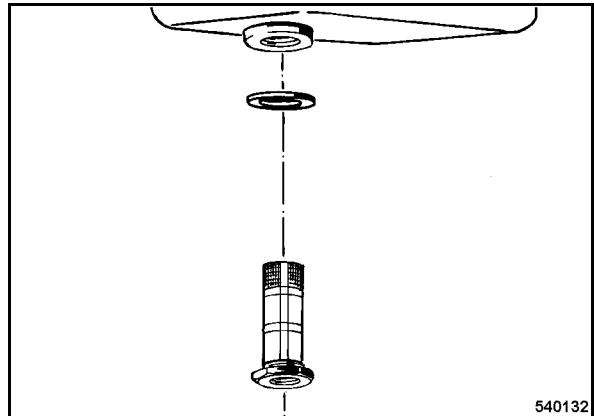

Fig. 54
- Unscrew the fuel screen (Fig. 54) and clean it with gasoline.